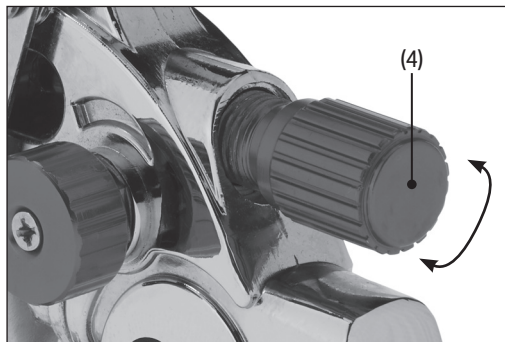

Fig. 11
The fluid control dial (4) adjusts the amount of paint that is released into the air flow and the density of the spray when the trigger is fully depressed (Fig. 11):